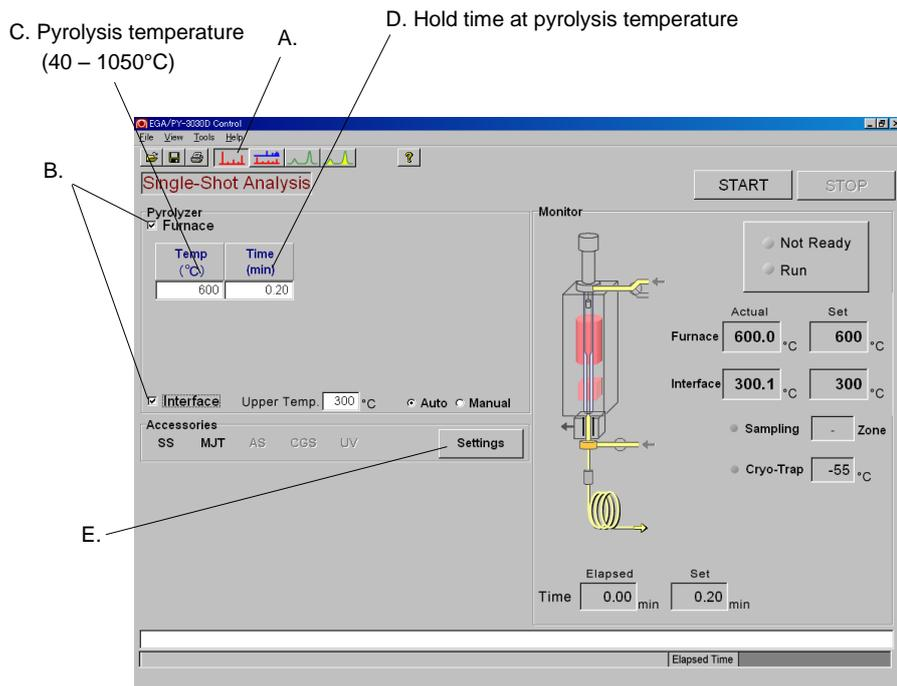

Fig. 4.7 Set-up screen for Single-Shot Analysis
From the menu bar, select “Tool” – “Analytical Modes” – “Single-Shot Analysis”, or click on the “Single-Shot Analysis” icon (A) on the toolbar. The set-up screen shown in Fig. 4.7 will be displayed.